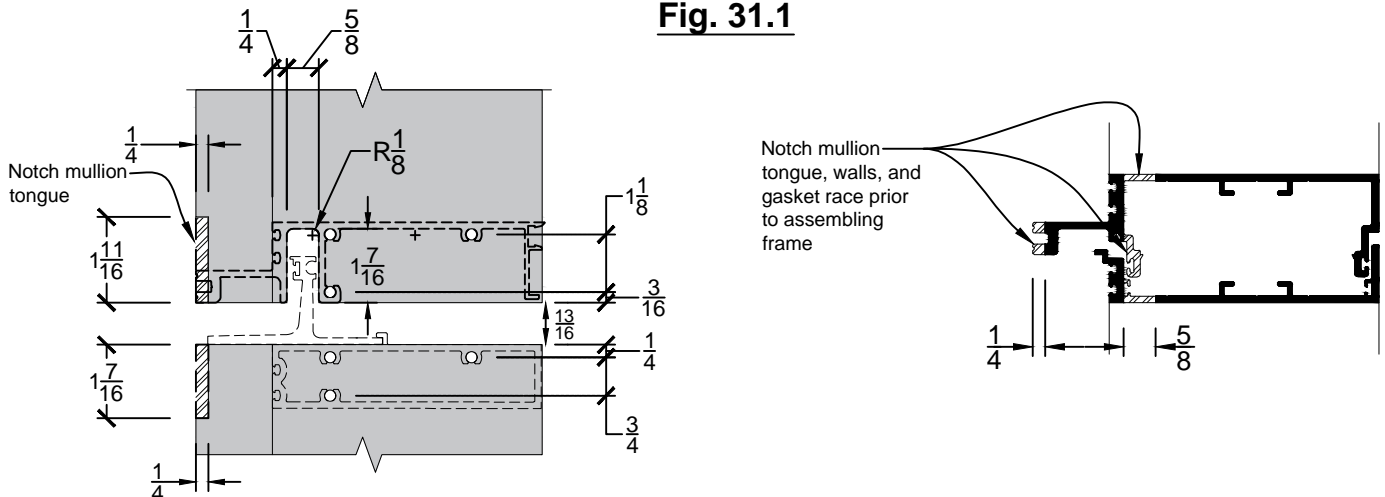

Fig. 31.2
- B. At an expansion joint using E4200 the top mullion needs to be notched to fit over the expansion plate. See Fig. 31.2 for notching dimensions.